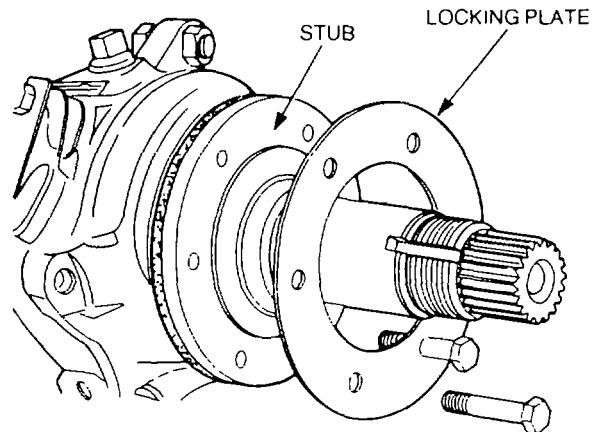

Figure 98 Stub Axle Removal
- c.** Remove the six bolts and locking plate, retaining the hub stub axle to the swivel housing (Figure 98).